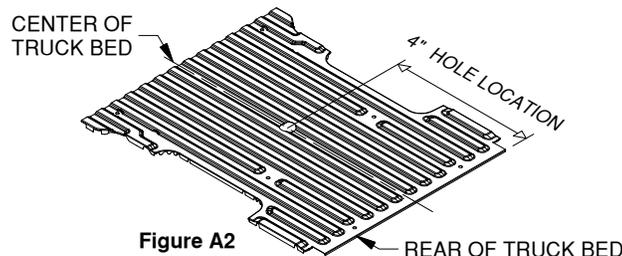

Figure A2
- 7. Mark the 4" hole location.** Using a tape measure hooked over the rear edge of the bed (at tailgate end), measure the location for the hole as shown in Figure A2. Next, locate the center of the bed by measuring the distance between the wheel wells and dividing by two. The center of the hole will be at the intersection of the center of the bed and the first distance measured.